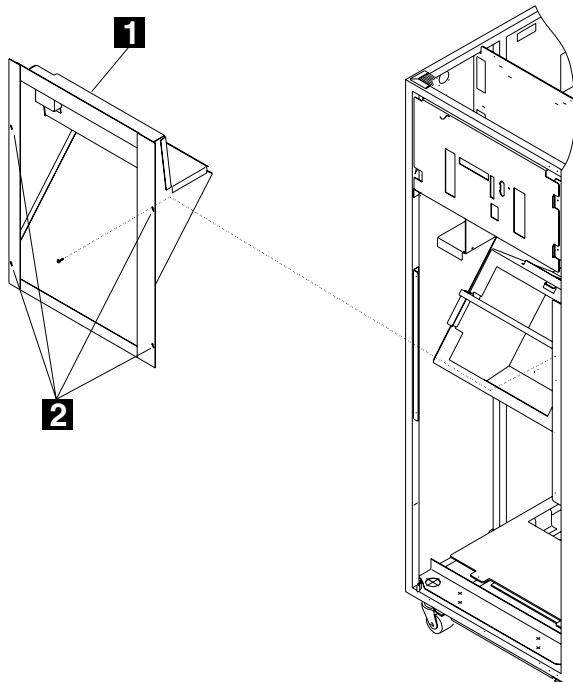

Figure 4-160. Air Duct
7. Refer to Figure 4-160. Working from the front side, do the following:
5. Refer to Figure 4-160 on page 4-172. At the front side, re-install the air duct as follow: